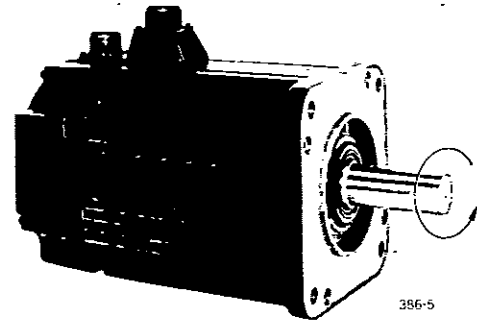

Fig. 9.1 Motor Forward Running
- When the reference voltage is positive, the motor rotates forward (counterclockwise when viewed from the drive end—output shaft) (Fig. 9.1)